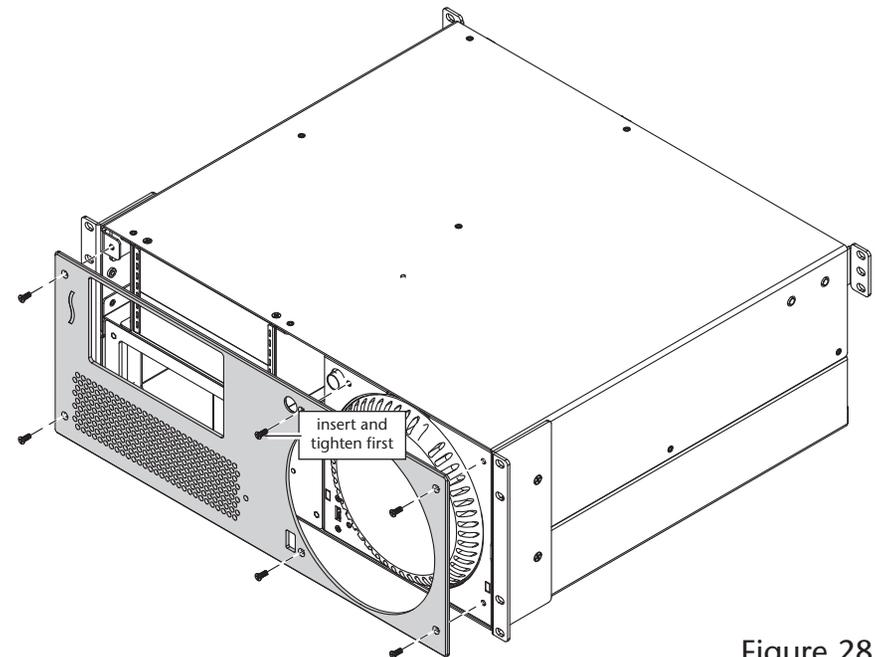

Figure 28
16. Using one of the screws you removed previously, secure the front panel to the rackmount enclosure, inserting the screw into the hole next to the power switch opening. Verify the power switch operates smoothly (Figure 28).
17. Using the remaining screws, secure the faceplate to the rackmount enclosure; **do not overtighten the screws** (Figure 28).